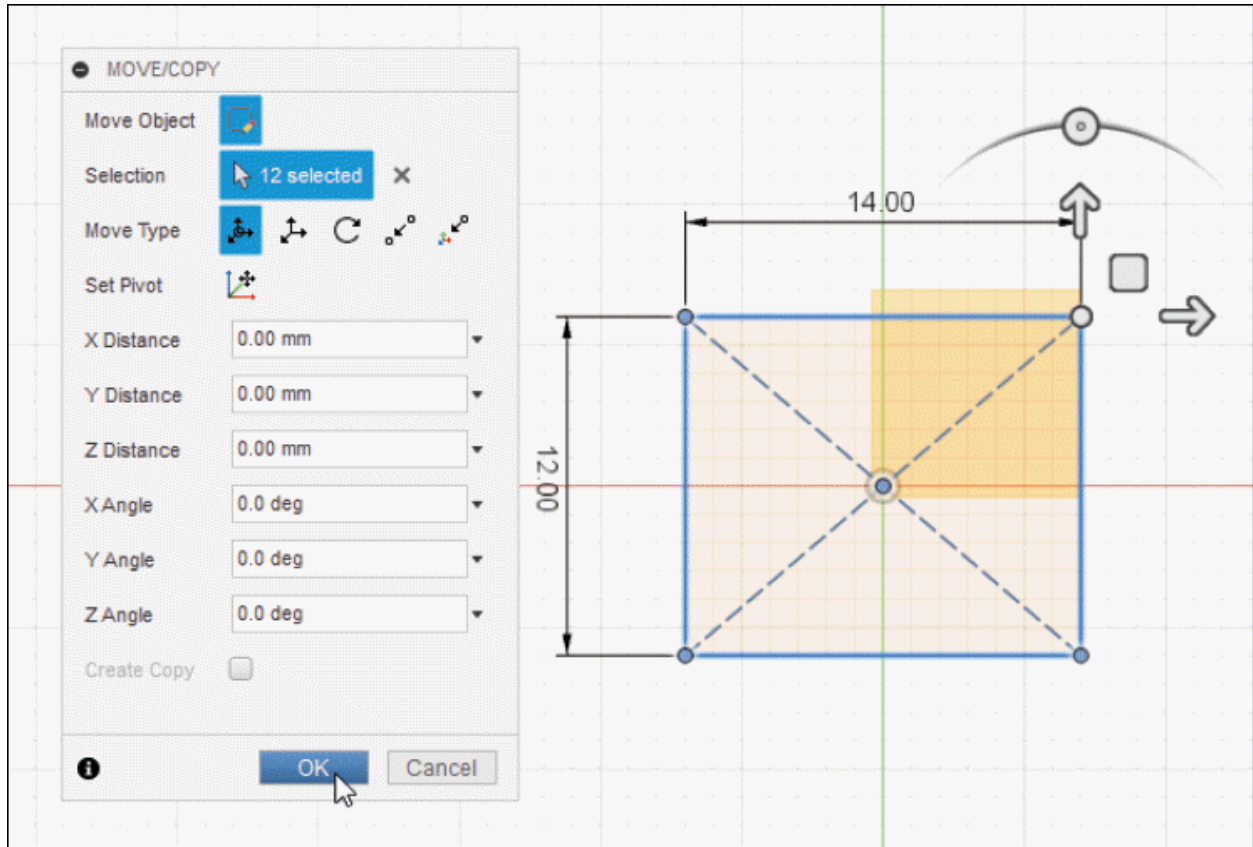

Figure-8. Sketch pasted with MOVE COPY dialog box
- Press **CTRL+V** from keyboard to paste earlier copied sketch. The **MOVE/COPY** dialog box will be displayed with sketch pasted; refer to Figure-8.